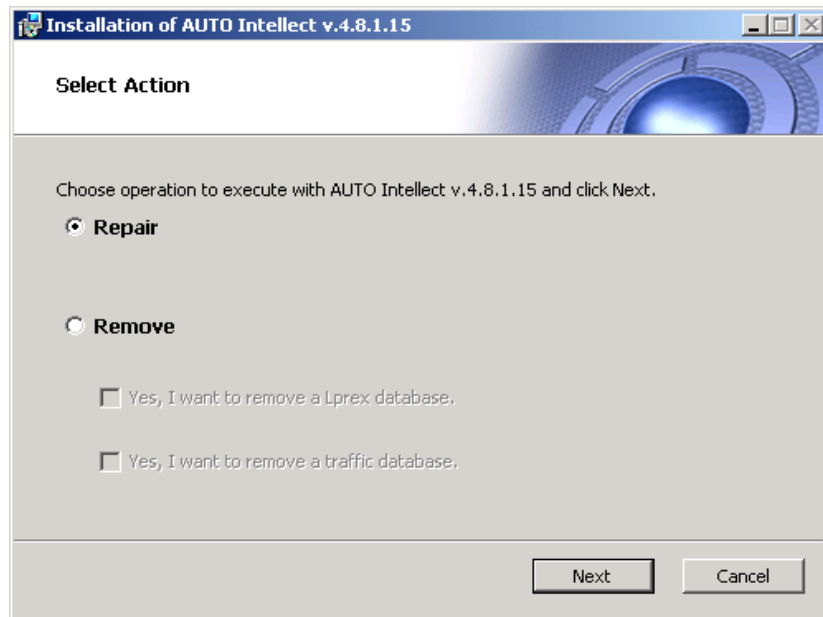

Fig. 6.4-1 The re-installation option selection dialog box
Step 2. At this stage of installation you should choose operation to execute with Auto Intellect. To select repair mode set "Repair" check box and click "Next" (see Fig. 6.4-1)